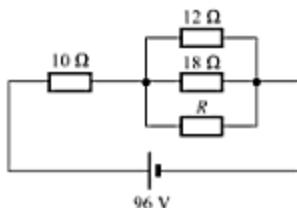

Fig. 2.40
14. Determine the value of resistance R , if the power dissipated in 10-ohm resistance is 360 W in the circuit of Fig. 2.40.